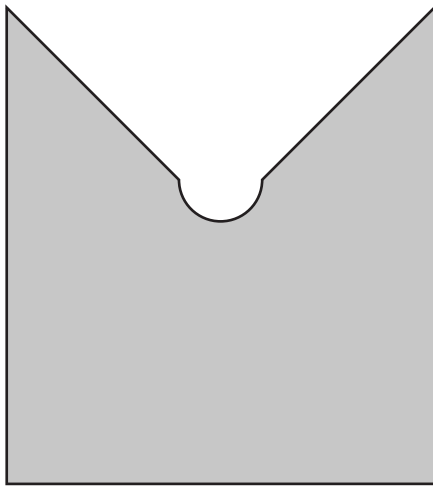

Figure 4: Tool template for silicone joint, scale 1:1
- 9 Remove excess silicone adhesive from the outer vertical corners with a tool made of cardboard as shown in figure 4. Smooth out the joints on the inside with a finger, wet with water or soapy water.